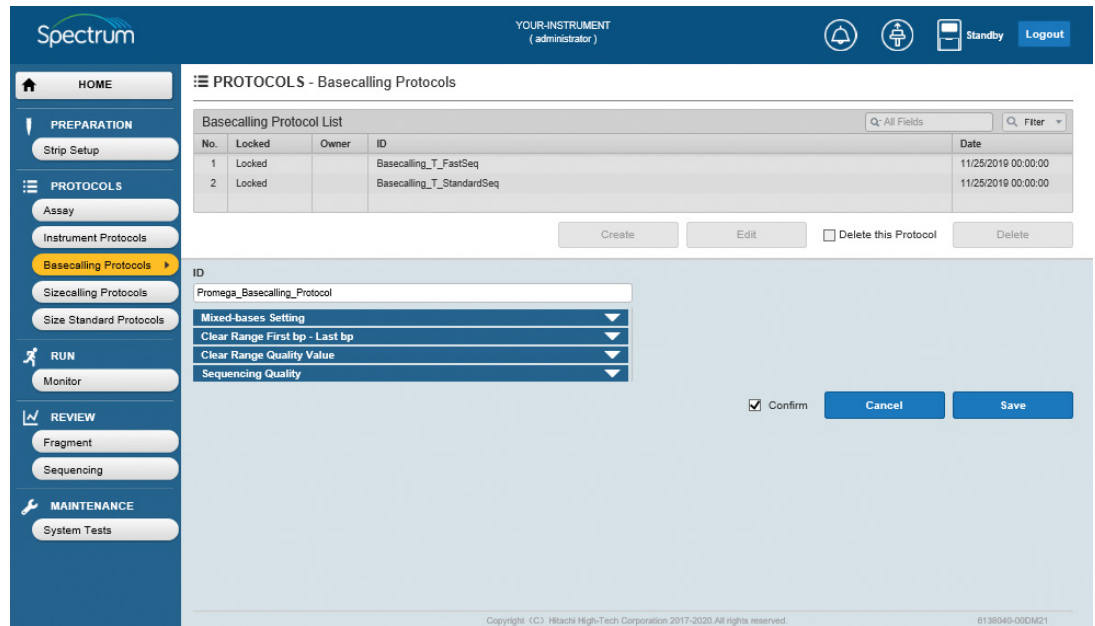

Figure 40. Saving a new Basecalling Protocol.
7. Check the **Confirm** box and select **Save** (Figure 40). If no errors are detected, "Normal End" will appear on the screen in a green horizontal box. If errors are detected, either "Invalid data entered" or "The value is out of range" will appear in a red horizontal box and the software will indicate where the error is occurring.